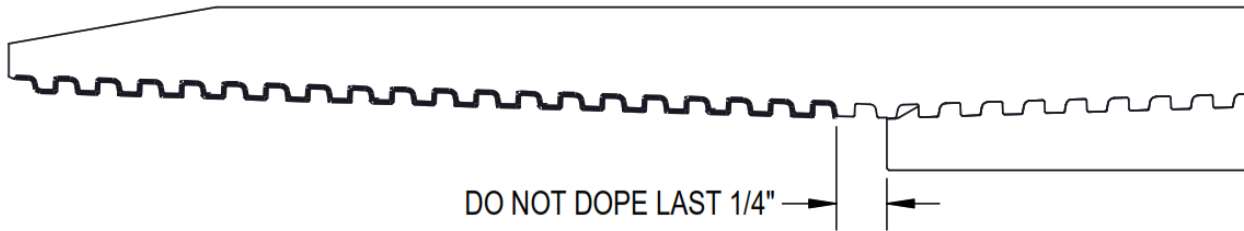

Figure 2: Correct way to apply thread compound.
2.2 The use of a fine bristle mustache or 1" paint brush is recommended to best control the application of thread compound. The brush should be free of any water. Water that is on the brush, connection, or in the running compound bucket must be completely removed before applying the compound. Apply a light coat of thread compound to the threads in the coupling only. Leave the last ¼" bare (See Figure 2). When applying thread compound ensure the mill end pin is made up to the center of the coupling to prevent a low or high shoulder torque.